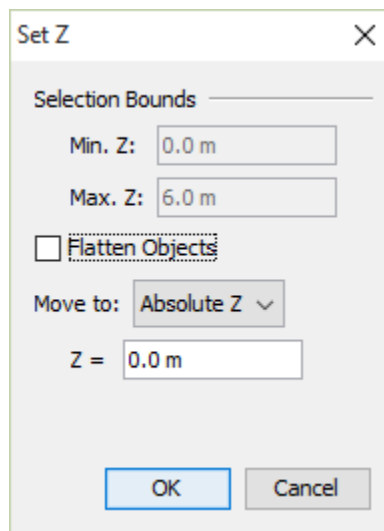

Figure 84. Set Z dialog
Sometimes when importing from 3D CAD models, extracted rooms may not be at the proper height or may have some undesired slope. These issues can be corrected either before or after extracting rooms by using the **Set Z** dialog (Figure 84).
3. This will open the **Set Z** dialog as shown in Figure 84.